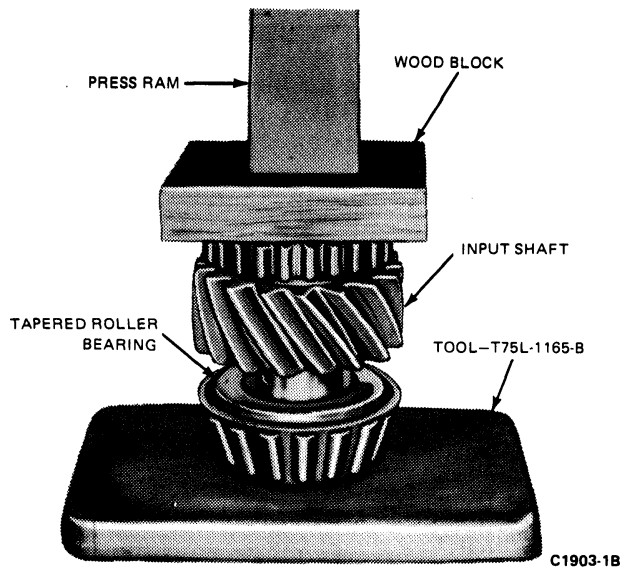

FIG. 15 Installing Input Shaft Bearing
1. Position Tool 4621-BA in an arbor press as shown in Fig. 15. Place a wood block on the input gear and press the gear into the bearings until it contacts the bearing inner race.